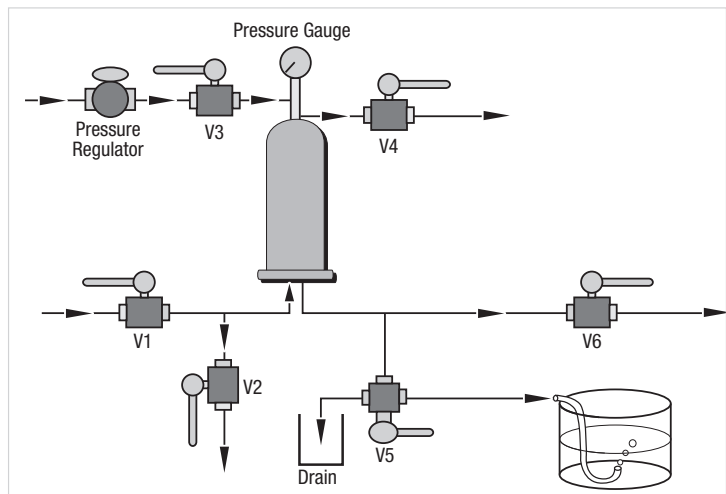

Figure 3. BPT (manual method).
2. Procedure (Manual Testing — Figure 3)
A. Configure the system as shown in Figure 3.